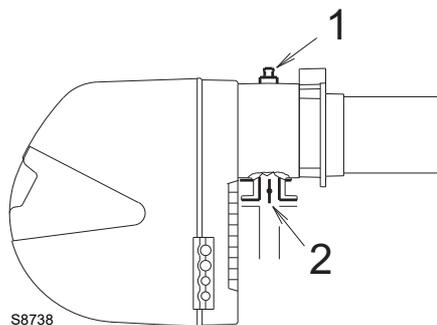

Fig. 27
Gas pressure measured at the test point 1)(Fig. 27), with:
Pressure loss at gas butterfly valve 2)(Fig. 27) with maximum opening: 90°.
- subtract the combustion chamber pressure from the gas pressure measured at test point 1)(Fig. 27).
To know the required gas pressure at test point 1)(Fig. 27), set the maximum output required from the burner operation, then:
- Read, on the right (column 1) the socket pressure 1)(Fig. 27).
gas pressure at test point 1)(Fig. 27).